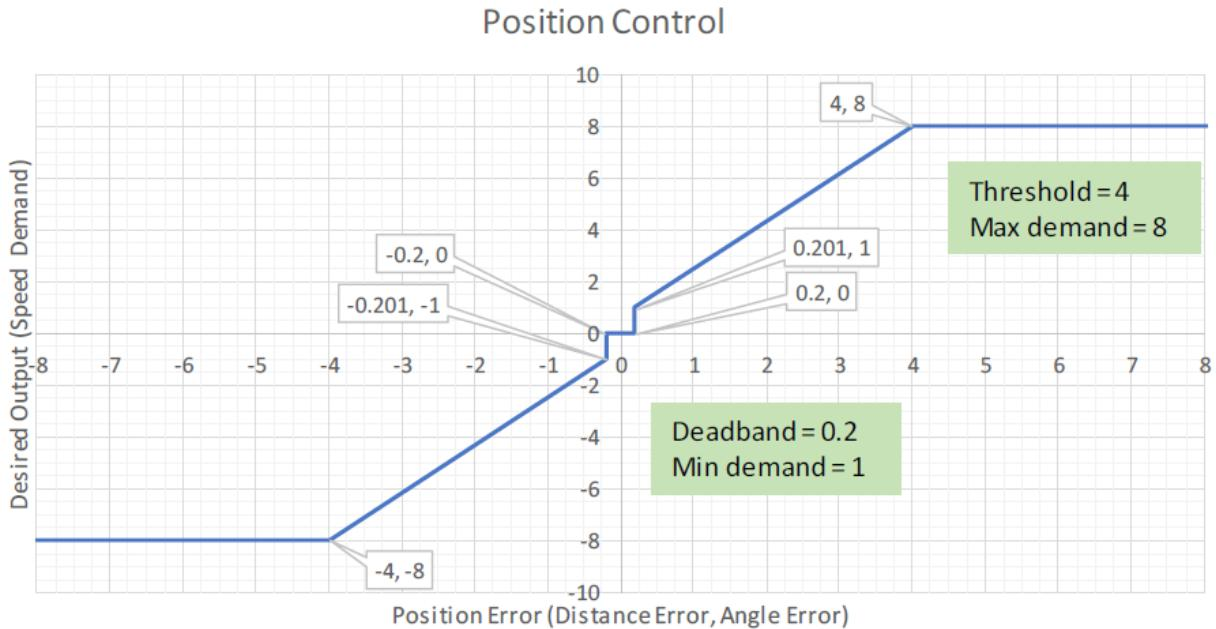

FIGURE 7.6 Position control plot of CO = function of (SP - PV)
Fig. 7.6 shows a generalized position control algorithm. The *CO* value is plotted on the Y axis. The error signal, *SP-PV*, is plotted on the X axis. The plot has two breakpoints. The first at (x,y) value (*Error Threshold, Max Demand*), (4, 8) in the figure. *Max Demand* is the maximum *CO* output when the error is outside of *Error Threshold*. *Error Threshold* is the error value where *CO* starts to diminish. The second breakpoint is at (*Error Deadband, Min Demand*), (0.2, 1) in
Let's assume that we would like to have a generalized subVI to implement the algorithm shown in Fig. 7.6. We assume that this VI would be called repeatedly inside our control loop. Inputs to this algorithm would need to be: *Setpoint (SP)*, *Process Variable (PV)*. The subVI would also need the coordinates of the two breakpoints: *Error Threshold*, *Max. Demand*, *Error Deadband*,
Problem 7.1 The position control algorithm shown in Fig. 7.6 can be broken into 5 linear segments, between and outside of the breakpoints. Each segment can be expressed as a straight line equation, $CO = M \times ERR + B$, where M is the slope and B is the intercept. For each of the 5